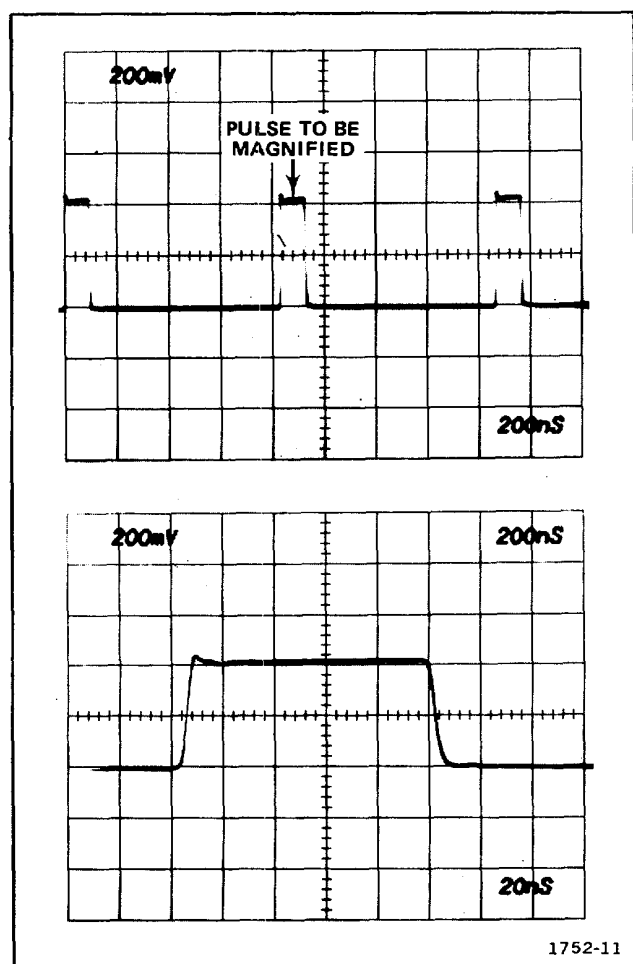

Figure 2-10. Using delayed sweep for magnification.
4. Set the TIME/DIV OR DLY TIME switch to a sweep rate which displays the complete waveform (see figure 2-10).
Example: The apparent magnification of the display shown in figure 2-10 with a TIME/DIV OR DLY TIME setting of 200 ns and a DLY'D Time/Division switch setting of 20 ns is: